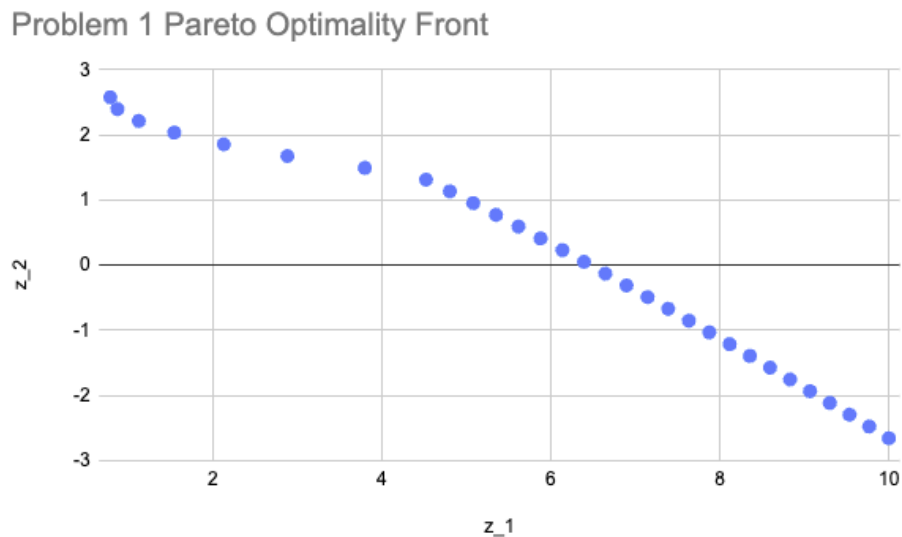

Figure 1: Problem 1 Pareto Chart
**Solution:** The plot is available in Figure 1